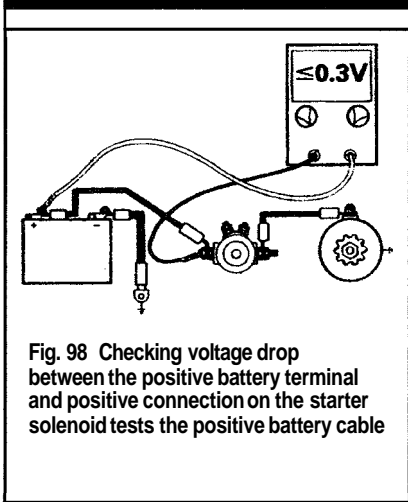

Fig. 98 Checking voltage drop between the positive battery terminal and positive connection on the starter solenoid tests the positive battery cable
- ◆ See Figures 98, 99, 100 and 101